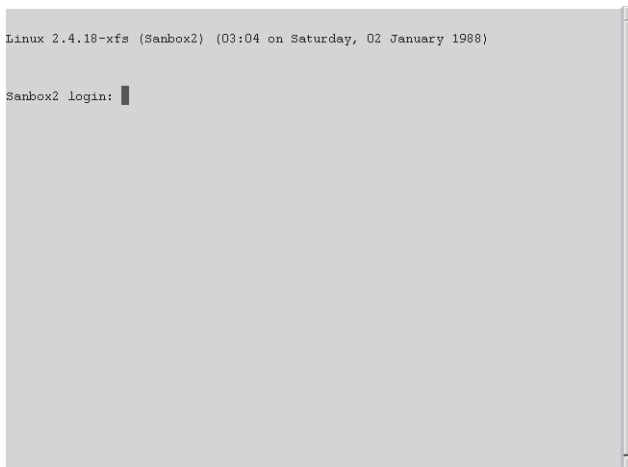

Figure 8. Fibre Channel Switch Module Telnet Login window
9. The I/O module Telnet Login window opens, as shown in Figure 8.